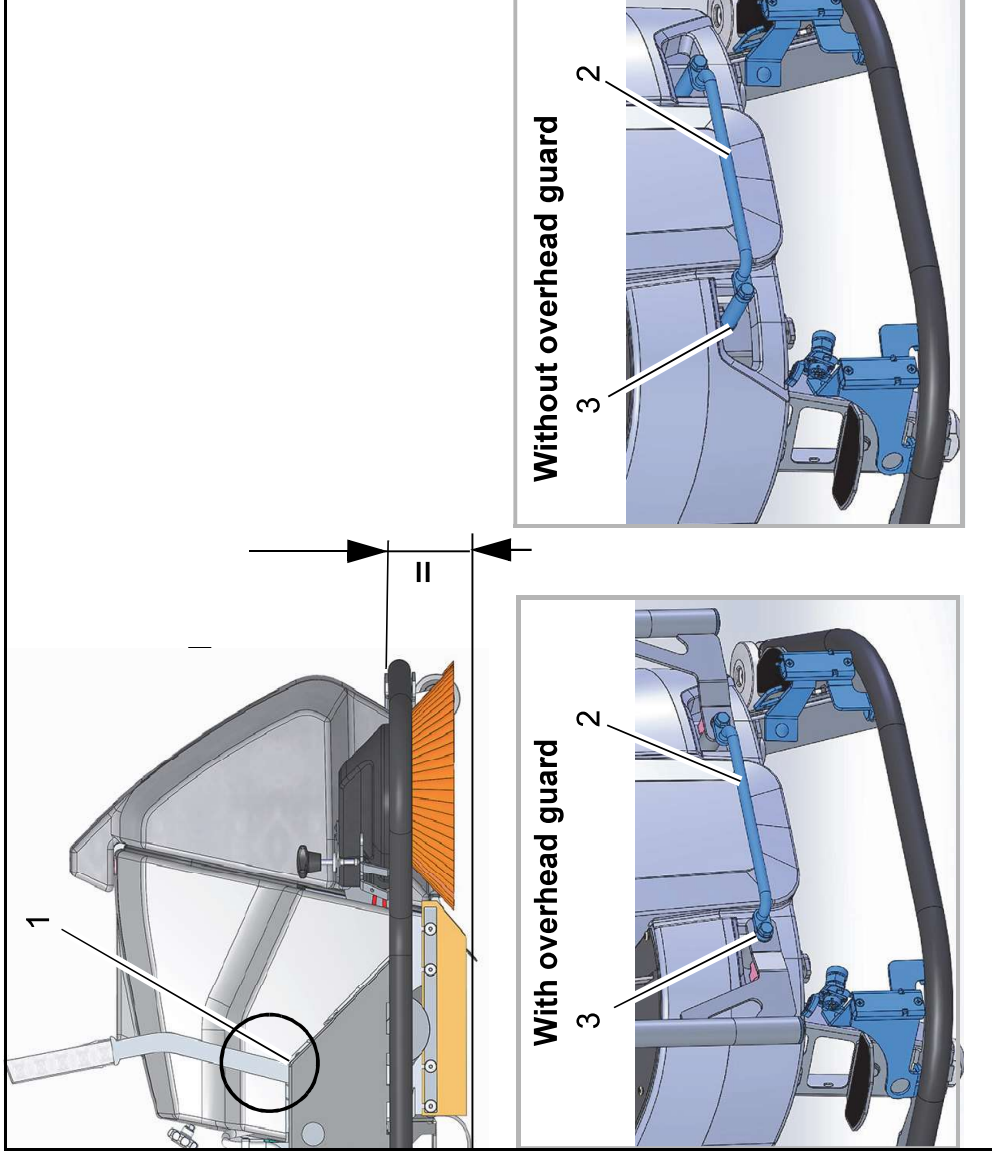

Fig. 3
If the pre-sweep suction unit is attached to the machine and the lever is in the sweeping position (Pos. 1) (Fig. 3/1), the frame must be aligned parallel to the floor.
2. Unscrew the swivel bracket (Fig. 3/2) from the machine. The tilt angle of the frame is determined by adding or removing the washers (Fig. 3/3). The following applies: the more the washers are used, the more the frame will tilt downwards at the front.